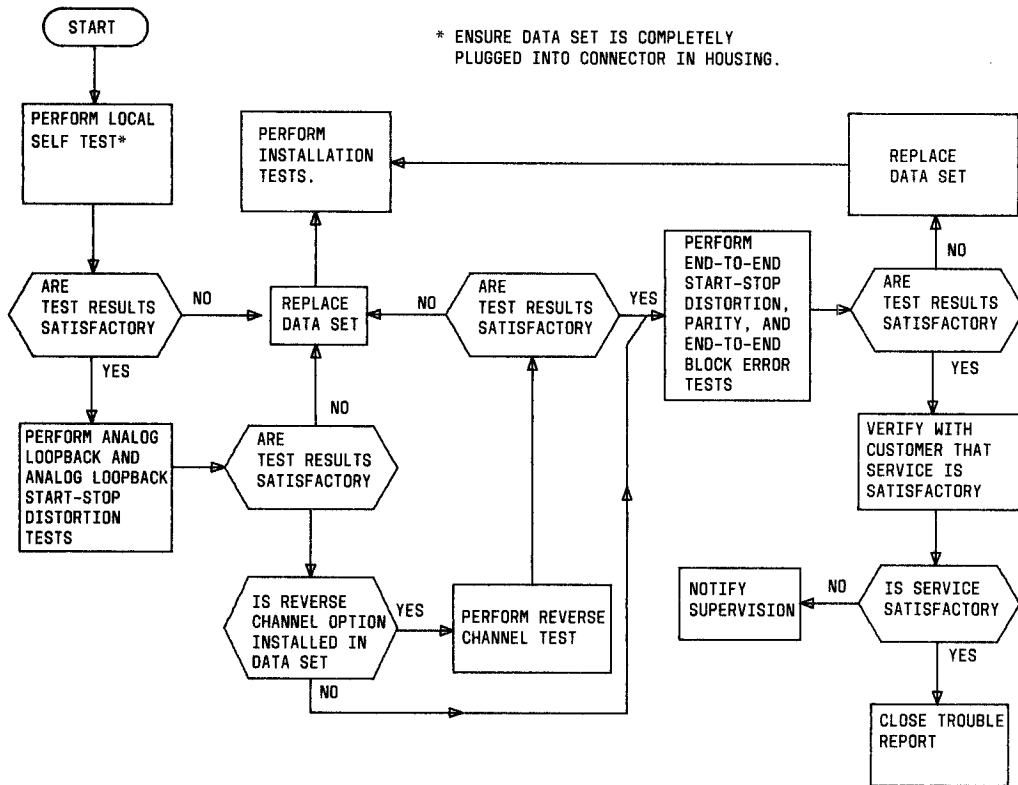
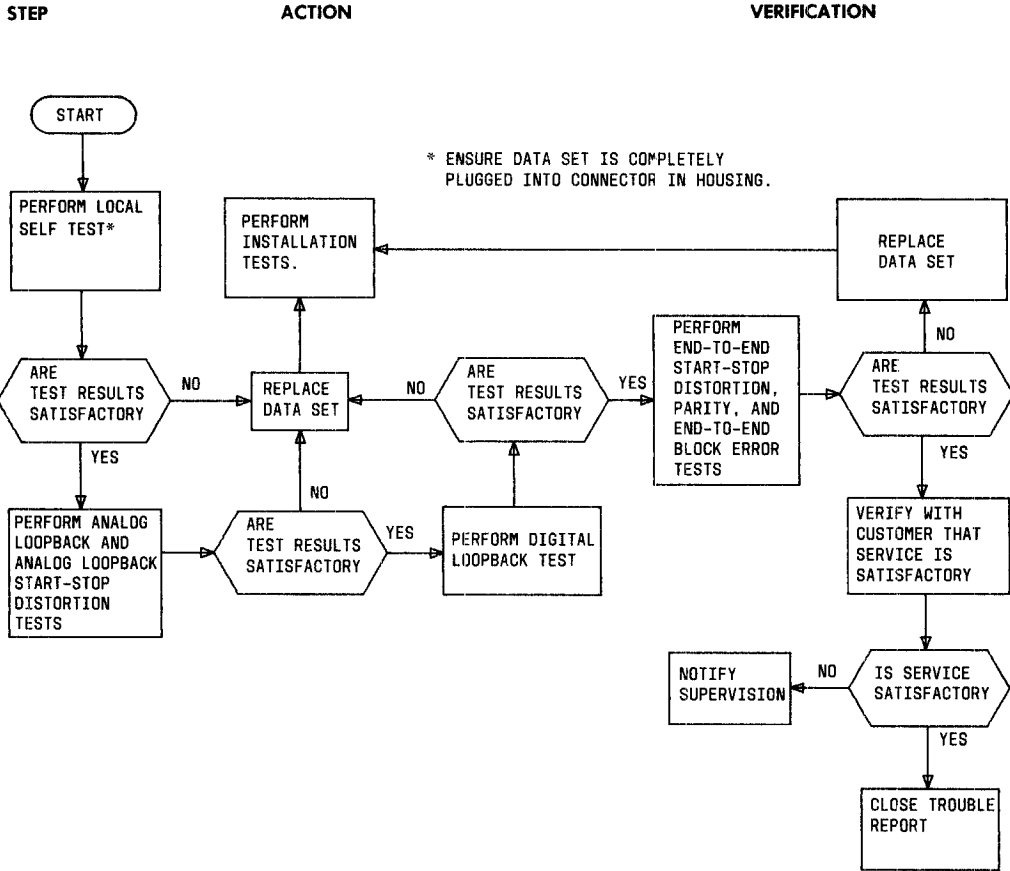

Fig. 5—Maintenance Test Sequence (2-Wire Private Line)
Fig. 6—Maintenance Test Sequence (4-Wire Private Line)
**3.04** Refer to Fig. 5 (2-wire private line) and Fig. 6 (4-wire private line) for the sequence in which tests are to be performed by the telco employee at the data station. If the data set is replaced, the defective data set should be tagged with a description of the trouble, carefully packed, and returned to the service center for repair. Verify that the replacement data set is equipped with the proper options before placing the data set in service.